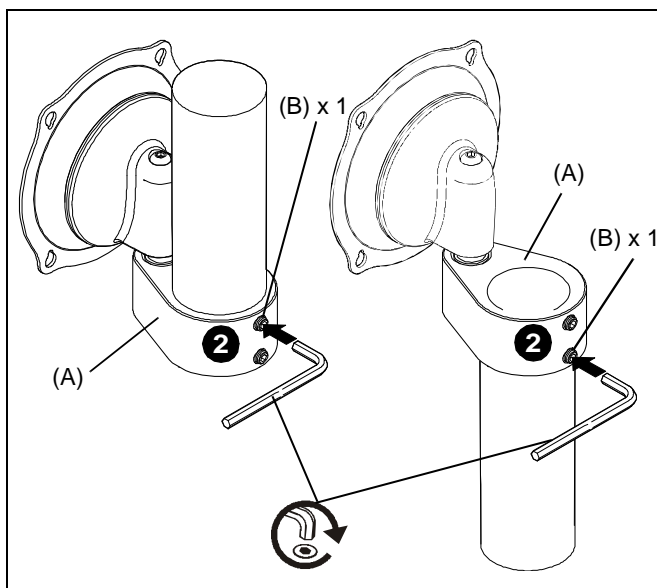

Figure 2
3. When mount (A) is properly positioned secure mount (A) to 1-1/2" NPT pipe by installing and tightening 5/16-18 x 3/8" set screw (B) using 3/16" hex wrench. (See Figure 2)